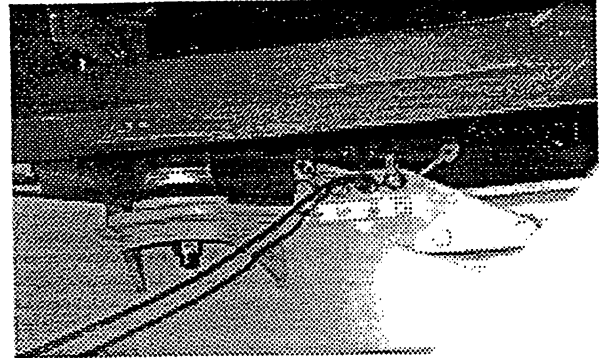

Fig. 1/3
- With hot oil, 50°:70° C, connect the pressure gauge, range 250 bar, at the third intake (from the left to the right); (see Fig. 1/3)